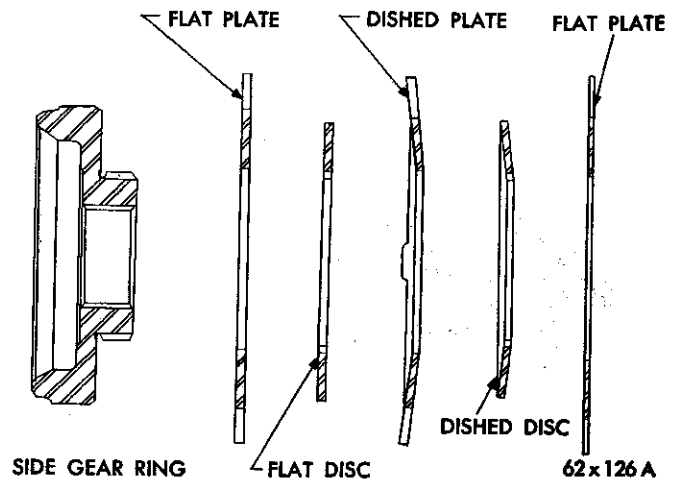

Fig. 41—Arrangement of Clutch Plates, Discs and Washers
(1) Position the clutch plates and discs in their proper location in each half of the case, as shown in Figure 41.
(2) Place the side gears in their retainers. Insert